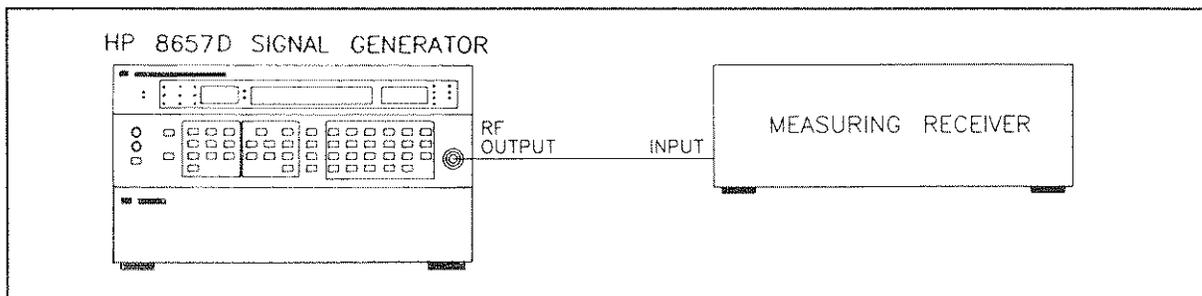

Figure 4-4. Residual FM Test Setup
12. Connect the RF OUTPUT of the HP 8657D under test to the input of the measuring receiver as shown in Figure 4-4.